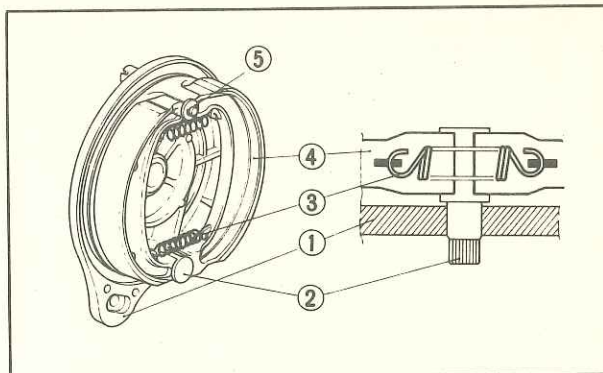

Fig. 4-8 (1) Front brake panel (4) Brake shoe
1. Hook brake shoe spring in direction as in Fig. 4-8.